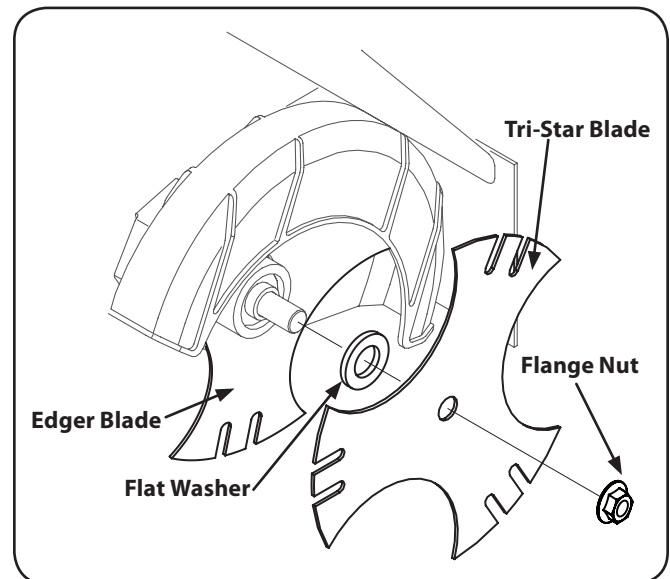

Figure 5-5
1. Use two wrenches (one wrench to prevent the hex bolt head from spinning and the other to unthread the flange nut) to remove the flange nut that secures the edger blade, leaving the edger blade in place. See Figure 5-5.
2. Install the additional edger blade and flat washer supplied with your machine. See Figure 5-5.